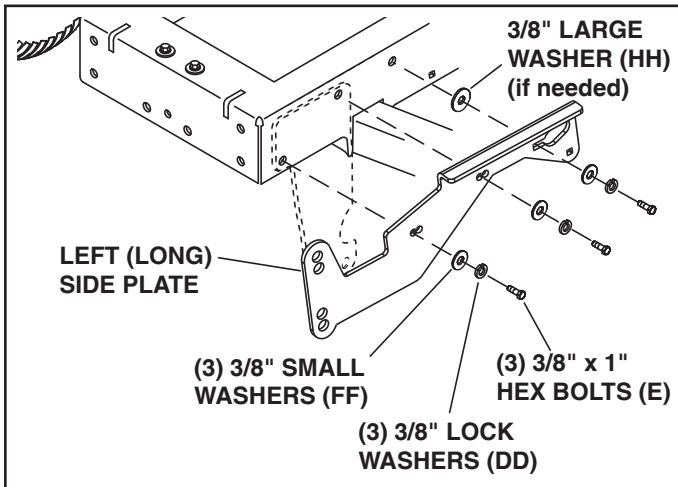

FIGURE 21
STEP 22: INSTALL SIDE PLATES (SEE FIGURE 21)
- Fasten the left (long) side plate to the tractor frame using three 3/8" x 1" hex bolts (E), 3/8" small washers (FF), and 3/8" lock washers (DD). If there is a bracket like the one shown with dotted lines, use a 3/8" large washer (HH) as a shim on the rear bolt. **Do not tighten yet.** Repeat for the right (long) side plate.